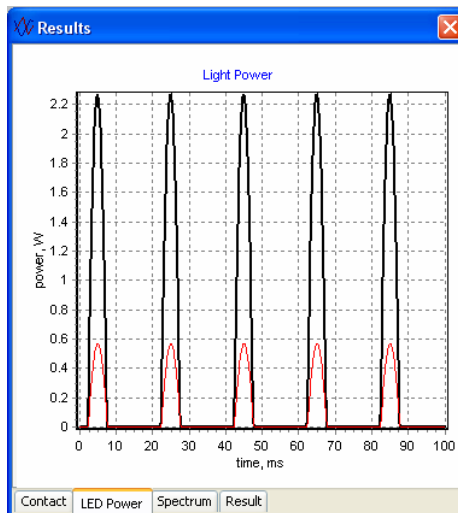

Fig. 27
- **LED Power.** The power generated in all LEDs (black line) and in the selected LED (red line) shown if the selected element is an LED as a function of time (see Fig.27).